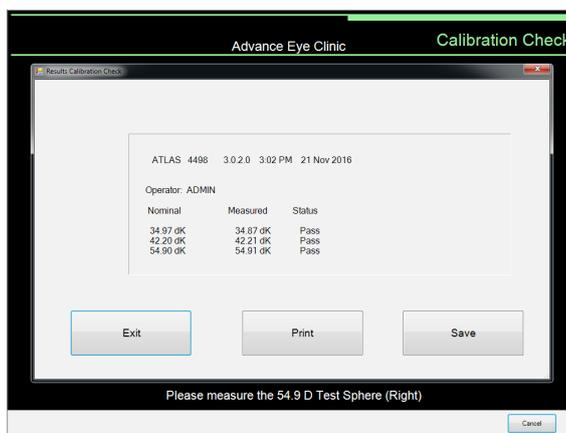

Figure 5
- When you have finished the steps of capturing images for all three spheres on the test eye, a dialog appears (*Figure 5*) showing the final results of the complete calibration test.